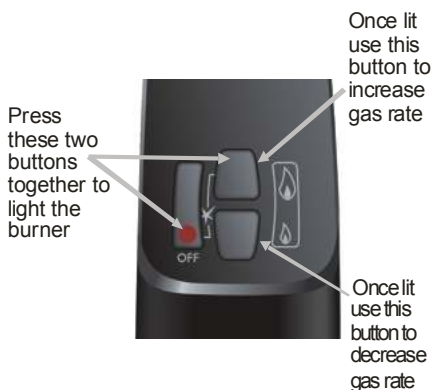

Figure 16
2. Simultaneously press and hold the  (red circle) and  (large flame) buttons until a short acoustic signal confirms the start sequence has begun, then release the buttons (see **Figure 16**).
4. To adjust the gas rate to desired setting press the  (large flame) to increase the flame height or  (small flame) to decrease the flame height on the handset (see **Figure 16**). For fine adjustment tap the  or  buttons.